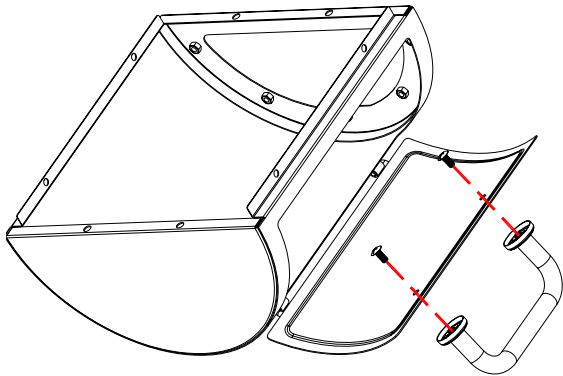

Fig.10
*Locate:* Firebox Lid Handle, (2) M6x15 bolts
Refer to Fig.10 Lift the Lid up and insert (2) M6x15 bolts from the INSIDE of the Lid then attach the Handle and Lid.